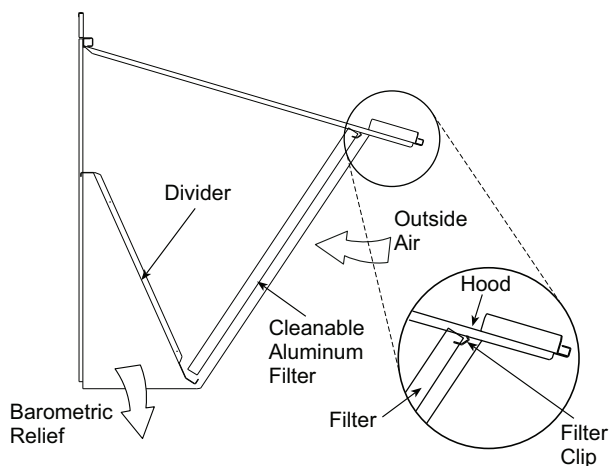

Fig. 13 — Economizer Filter Installation
5. Open the filter clips, which are located underneath the hood top. Insert the aluminum filter into the bottom filter rack (hood divider). Push the filter into position past the open filter clips. Close the filter clips to lock the filter into place. See Fig. 13.